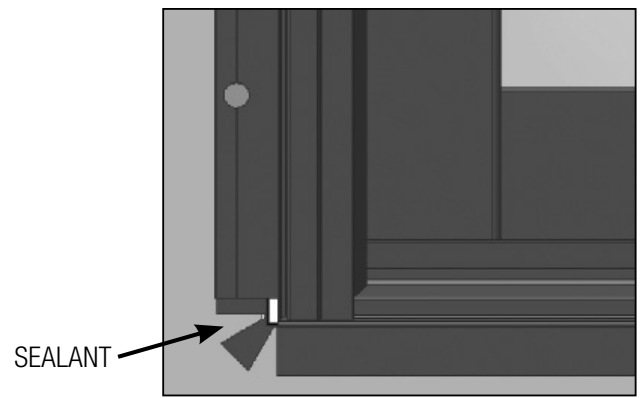

FIG. 15
- a. Below the nailing fin at both bottom corners, apply a generous amount of silicone to seal the void between the rough opening and the sill. If the gap is too large, insert backer material in the void prior to sealing. (Fig. 15)